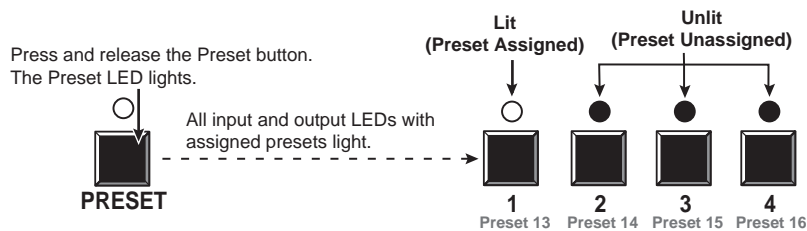

Figure 3-38 — Enter Recall Preset mode
2. Press and release the Preset button (figure 3-38).